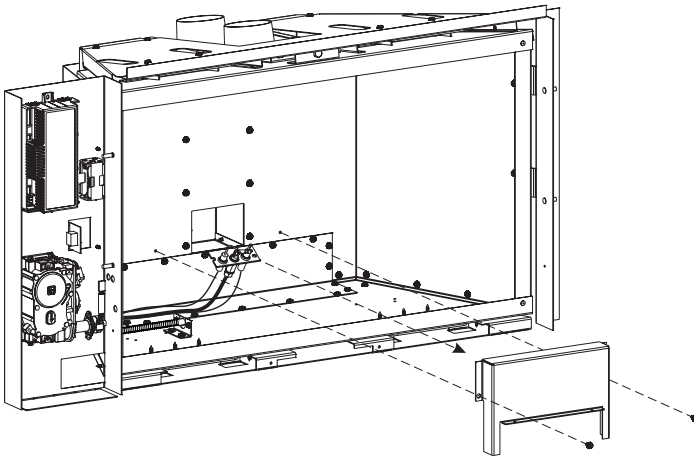

Figure 47
15. Remove the two screws securing the "air box" to the rear of the firebox. Remove the "air box" and set aside. **See Figure 47.**